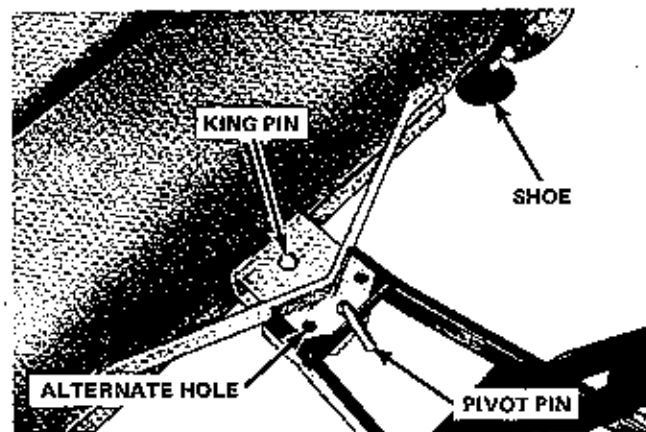

FIGURE 3
4. Attach the blade to the push bar with the king pin inserted from the top. Secure the king pin with a spring clip. (See Figure 3)
5. Install the pivot pin in the desired hole. (See Figure 3)